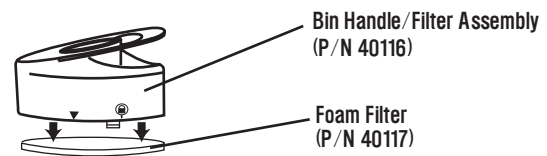

Figure 13b
3. Remove the Foam Filter from the bottom of the Bin Handle/Filter Assembly. (See Figure 13b.) Note that the Pleated Filter is permanently affixed to the inside of the Handle. Rinse the Foam Filter and the Bin Handle/Filter Assembly with warm water and soap* and then rinse with water only until water running out the bottom is clean and there is no remaining soap.